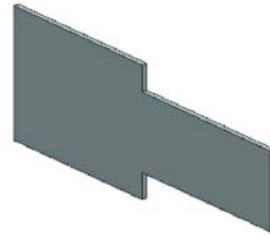

Figure 14-128 Base of the part
4. Exit the sketching environment and specify the thickness of the sheet metal part in the backward direction. Exit the **Tab** tool to create the base of the sheet metal part, as shown in Figure 14-128.